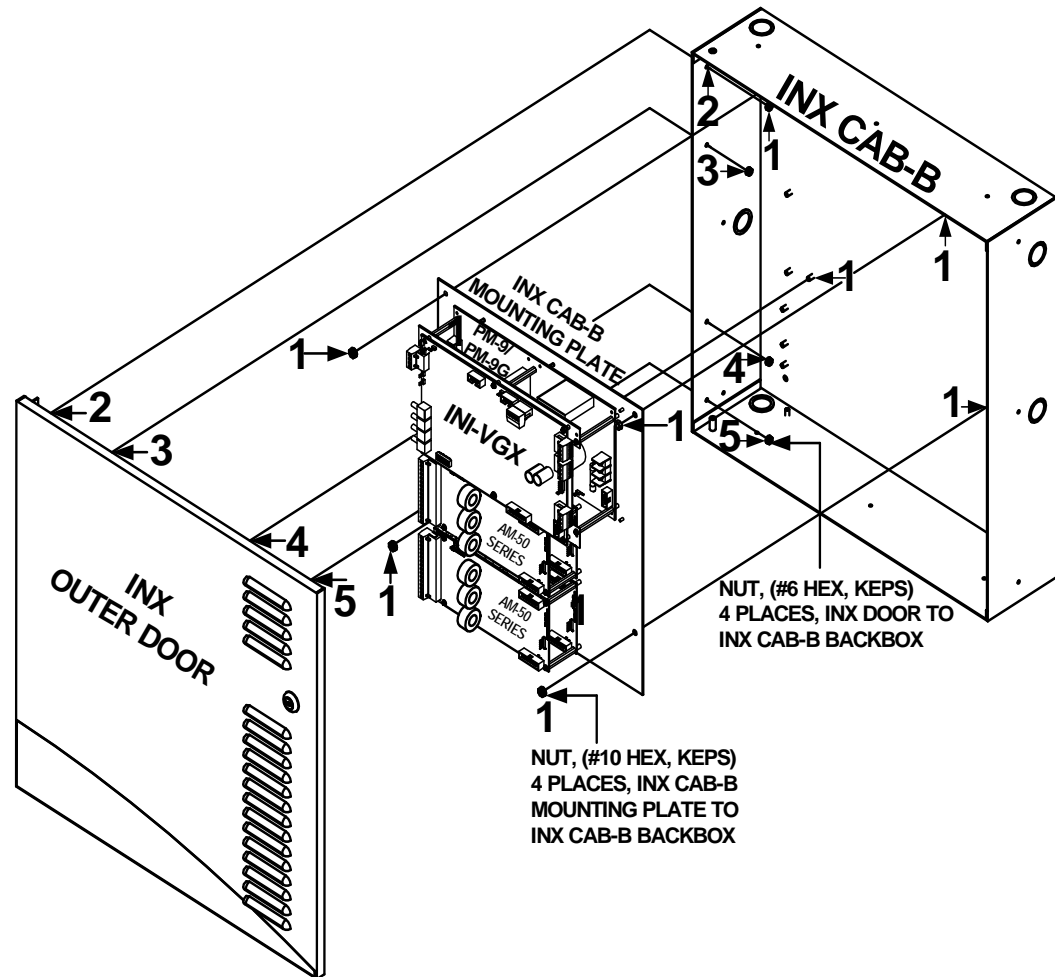

Figure 2.9.3.1 INX CAB-B Mounting Plate to Backbox Installation
1. Mount the INX CAB-B Mounting Plate to the studs in the backbox and secure with four (4) nuts (#10 HEX, KEPS) as shown in Location 1 of Figure 2.9.3.1.
2. Position and mount the INX Outer Door on the backbox, and secure with four (4), (#6 HEX, KEPS) nuts in the four-hole mounting pattern on the left side of the backbox. See Locations 2 thru 5 of Figure 2.9.3.1.